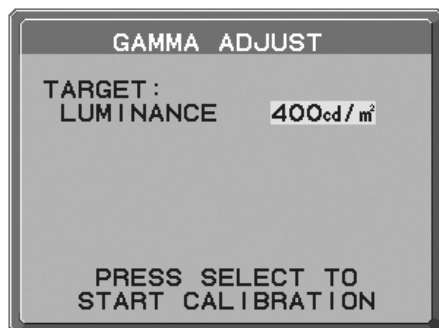

Figure 15
4. Set the target LUMINANCE (cd/m²) (**Figure 15**). Press SELECT to start the calibration. This may take several minutes depending on user setting.